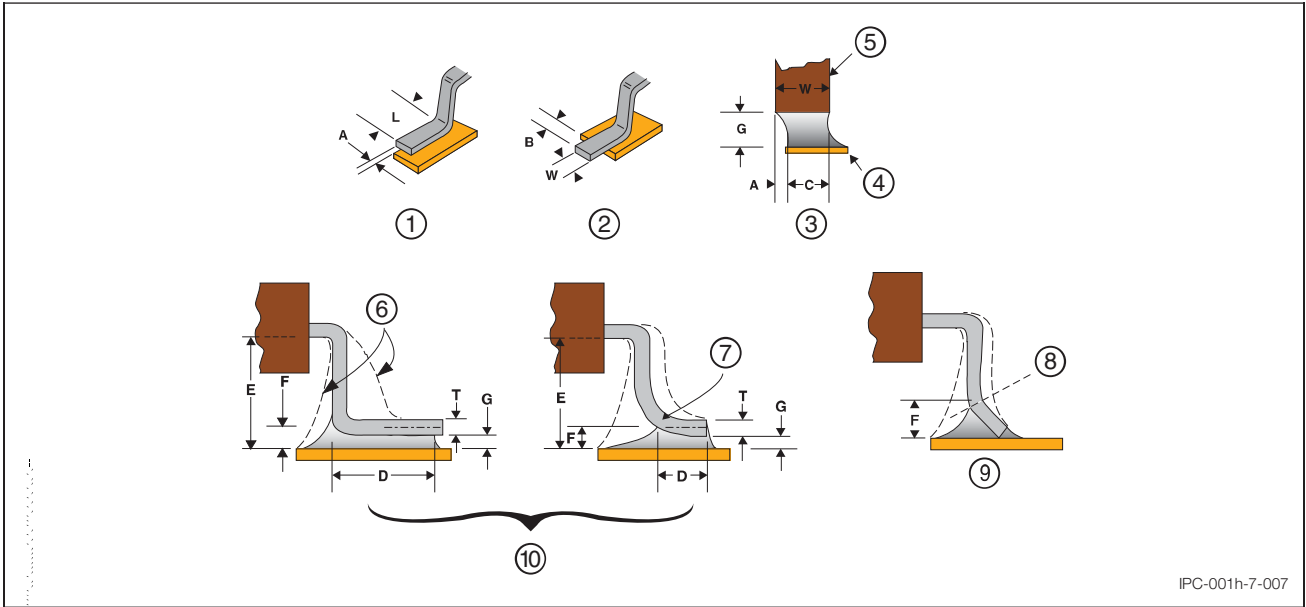

Figure 7-7 Flat Gull Wing Leads
7.5.7 Flat Gull Wing Leads Connections formed to flat gull wing shaped leads **shall [D1D2D3]** meet the dimensional and solder fillet requirements of Table 7-7, see Figure 7-7.
Toe down is the formed condition of the foot where the heel and the toe are not planar to the board, with the toe biased downward. The angle can be from a few degrees up to 45 degrees, see Figure 7-7.